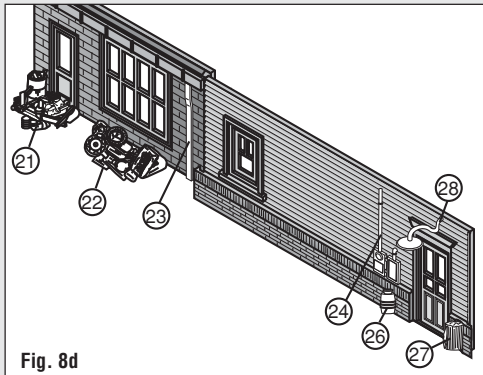

Fig. 8d
Back (Fig. 8d): Trashcan and Trash (21), Pile of Trash with Tires (22), Rain Gutter (23), Electric Meter and Junction Box (24), Barrel (26), Trashcan (27), Light (28)